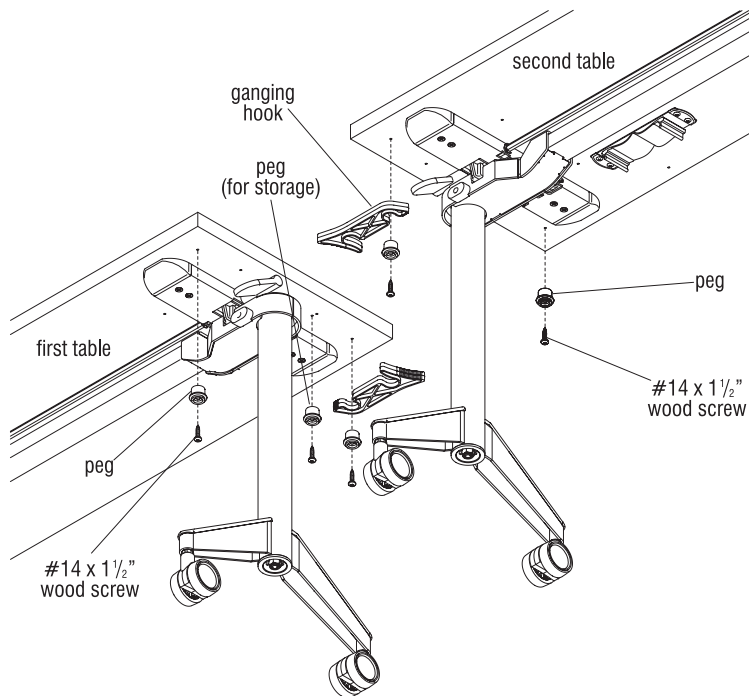

Figure 4 - 18" Wide Nesting Tables with Side-to-Side Ganging
1. As illustrated, and based on the 18" table width, position the two ganging hooks as shown, one at the underside of the first table and one at the underside of the second table, at the opposite side. Install each hook using one peg and a #14 x 1 1/2" wood screw (Figure 4).
2. Next, install three pegs at the other illustrated locations, two for ganging tables together and one for use to store the ganging hook (Figure 4).
4. When tables are un-ganged, simply swing one ganging hook around and out of the way and the other hook around and snap it onto the peg installed for storage (Figure 4 & Detail A).